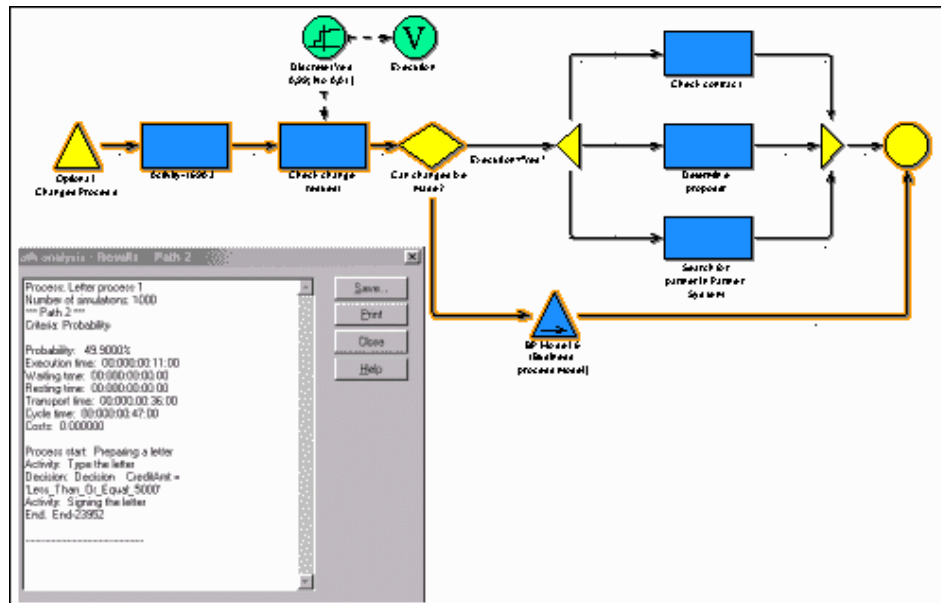

Figure 318: Path analysis - display path results
**"Path Results"** you can display the selected path graphically in the model window and as text (in the window "Path Analysis - Result Paths <No>" (see fig. 318) together with the corresponding path results (see chap. 4.2.4.2, p. 350).
The path selected is highlighted in the model windows (see the red border around the objects and connectors in the path). Text describing the path results (see chap. 4.2.3.1, p. 347)(protocol) can be viewed in the window "path analysis - result path <No>" (see fig. 318). Here information on which activities were processed in this path is shown as well as the overall totals of execution time, cycle time etc. for the path